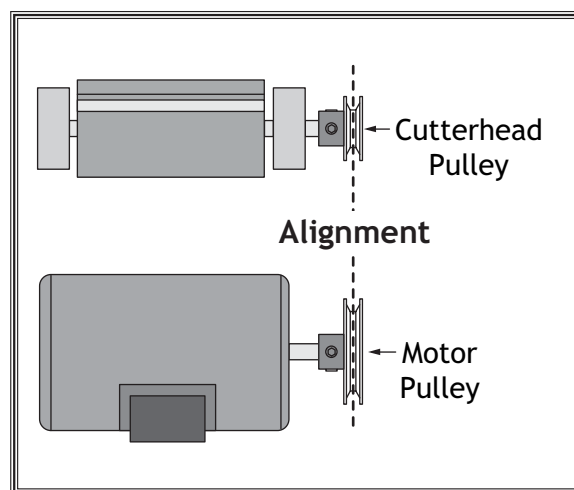

Figure 62. Pulleys aligned.
3. Visually check the alignment of the two pulleys to make sure that they are aligned and that the V-belts are straight up and down (see **Figure 62**).